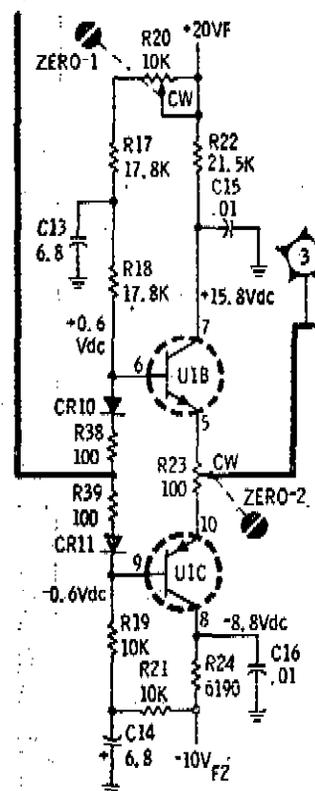

Figure 8-21. Partial Schematic (P/O Change 1)
Page 8-23, Figure 8-21:
Page 8-23, Figure 8-21 (Service Sheet 6):
Page 8-21, Figure 8-21.
► Change Figure 8-21 as shown in the partial schematic.